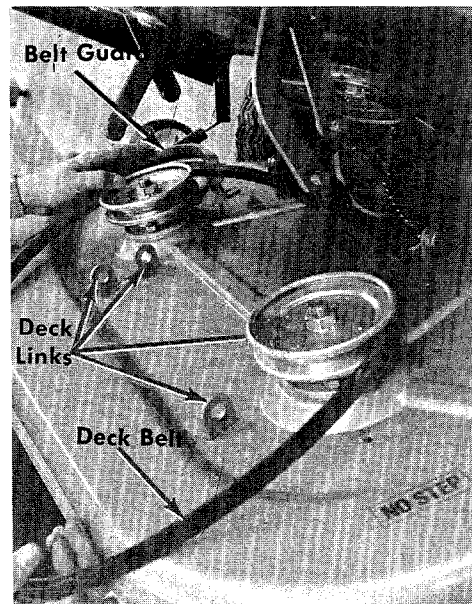

FIGURE 27. DECK LINKS
- Step 6. Remove the front four deck links from the cutting deck. See figure 27.
- Step 7. Remove the belt guards from both deck pulleys. See figure 27.
- Step 7. Tip the deck down as shown in figure 27.
- Step 9. Removing the transmission belt. See figure 27.
- b. Remove the transmission pulley by removing the hex nut and washer. See figure 27.